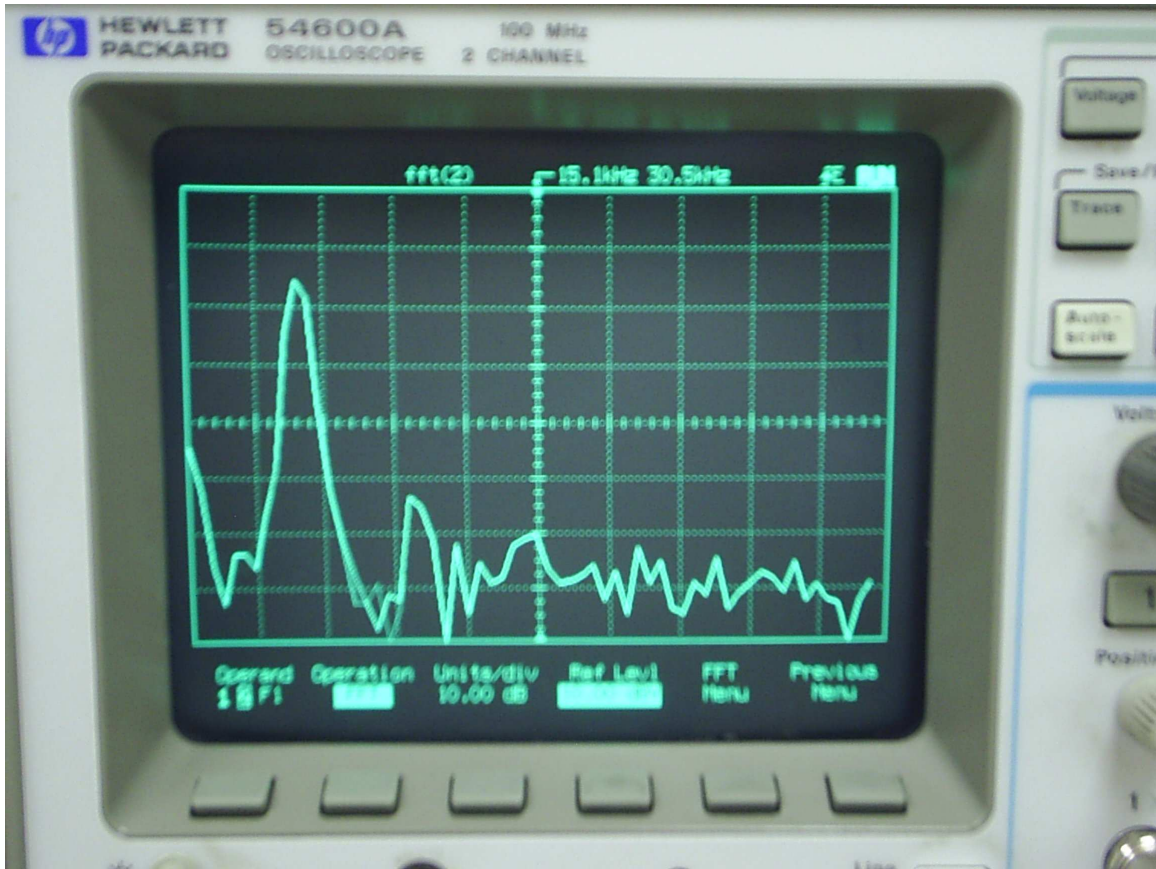

Figure 2.14: Setting the FFT options
8. Turn the “Time/Div” knob on the control panel to change the horizontal scale (frequency span) of the FFT waveform. Change the span so that 5 to 10 harmonics are visible on the screen. For example, for an operating frequency of 5 kHz, a total span of 30 kHz should suffice. See figure 2.14.